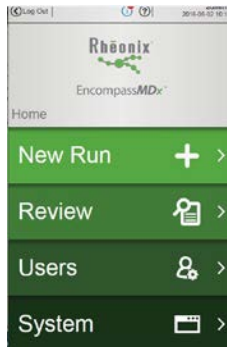
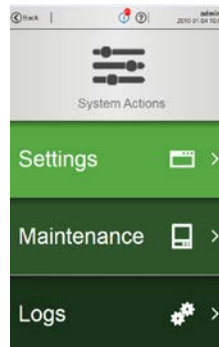
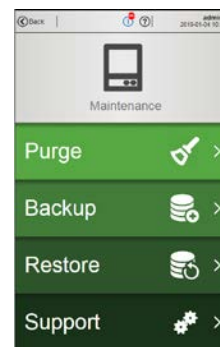

Figure 5-23: Main Screen
Figure 5-24: System Actions Screen
Figure 5-25: Maintenance Screen
The Administrator is responsible for managing the data which entails backing up the data, purging, and in some cases restoring data. To access these features, log in as Administrator and proceed to the Main Screen (Figure 5-23). Press “System” which will bring up the System Actions screen (Figure 5-24). Next, press “Maintenance” which will display a screen (Figure 5-25) with the following options:
When logged in as Administrator, proceed to the “Maintenance” screen as shown in Figure 5-25 and press the “Purge” button.
When logged in as Administrator, proceed to the “Maintenance” screen as shown in Figure 5-25 and press the “Backup” button.
- If this location is not appropriate, press cancel and back out to the System Actions screen (Figure 5-24) and follow the steps in Section 3.4.1 to change location.
When logged in as Administrator, proceed to the “Maintenance” screen as shown in Figure 5-25 and press the “Restore” button.
When logged in as Administrator, proceed to the “Maintenance” screen as shown in Figure 5-25 and press the “Support” button.